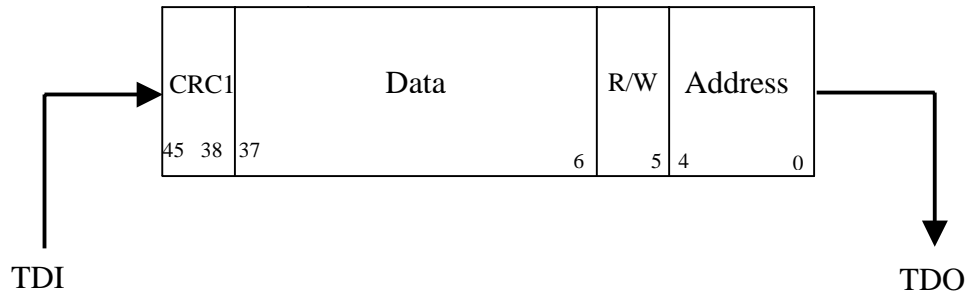

Figure 7: Register Scan Chain (data shifted in)
- CRC1 (Figure 7: Register Scan Chain (data shifted in)) is shifted in. Host calculates it from the address, R/W bit and data that are send in.